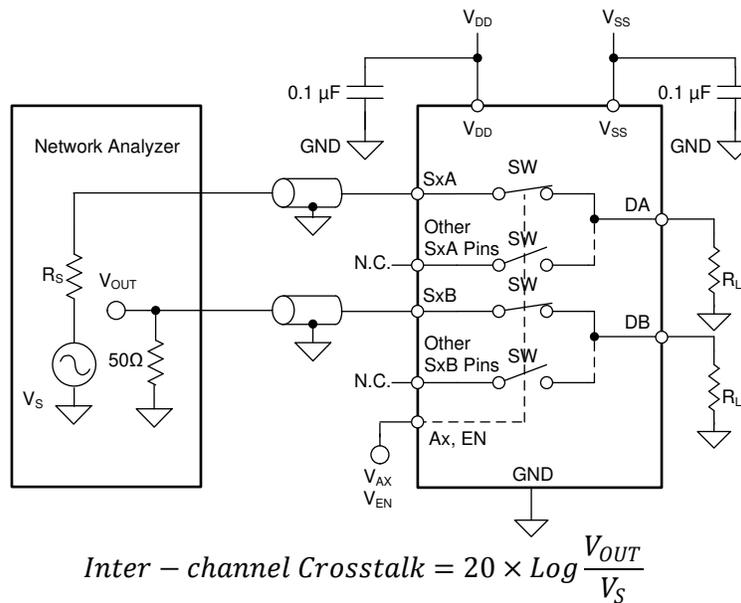

Figure 7-10. Inter-channel Crosstalk Measurement Setup
2. Inter-channel crosstalk ($X_{TALK(INTER)}$): the voltage at the source pin (S_x) of an on-switch input when a signal is applied at the source pin of an on-switch input in a different channel, as shown in Figure 7-10. Inter-channel crosstalk applies only to the MUX809-Q1 device.